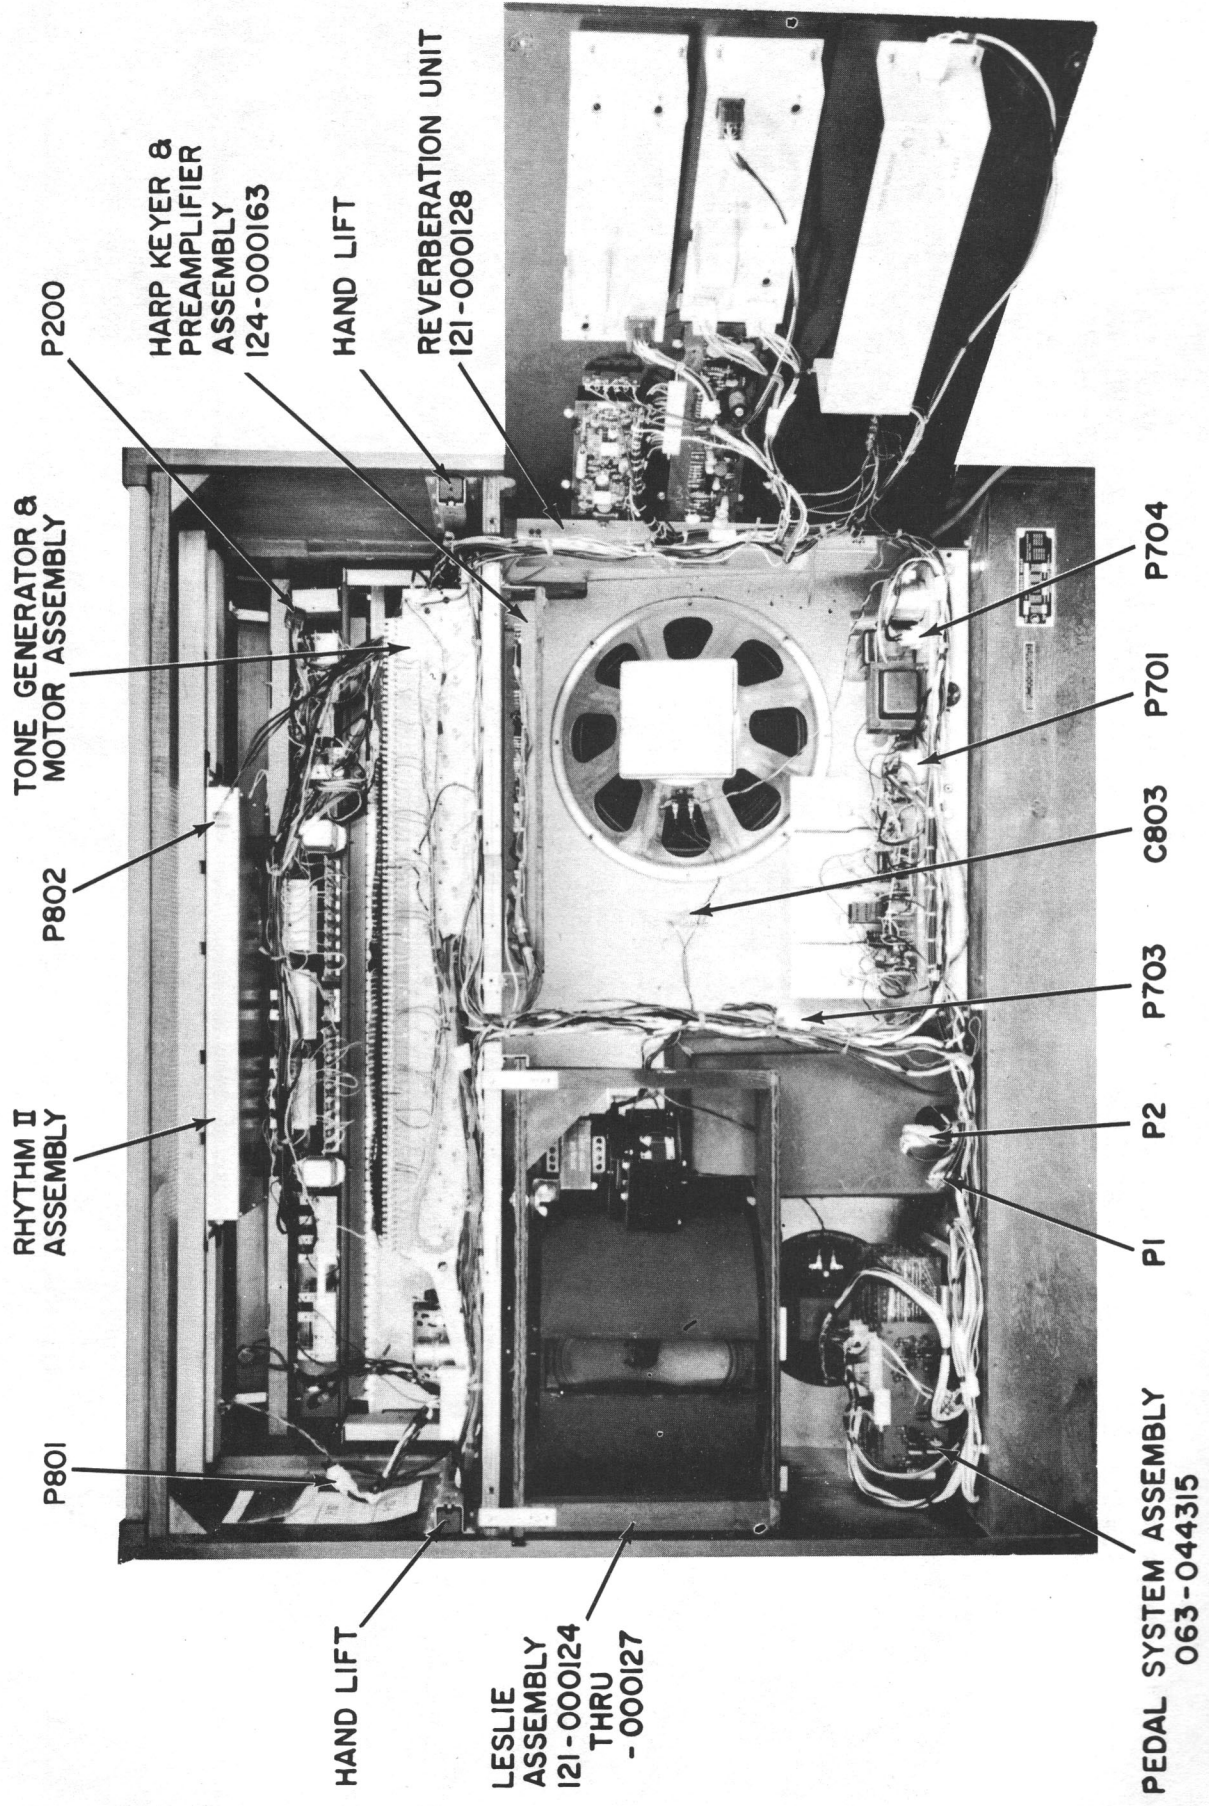

Figure 4-6. Parts Identification, Rear of Console
**4-25. PARTS LOCATION.**—Figures 4-6 through 4-8 serve as a guide to the locations of parts in the organ.